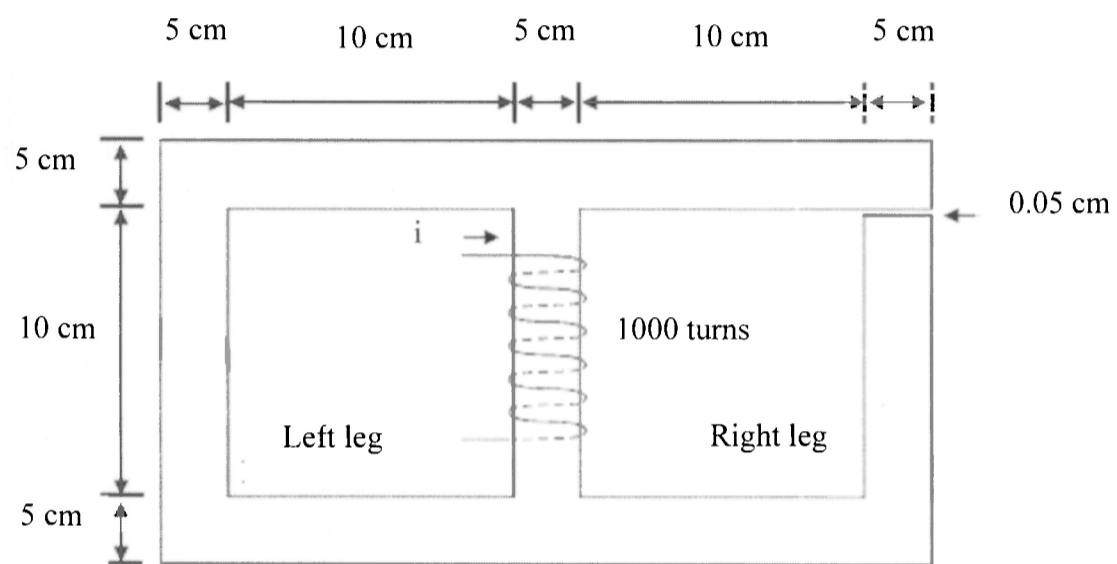

Figure Q1 (b)
- (b) A core with three legs is shown in Figure Q1 (b). The core is used as a device to unlock safety box when it is energized. Its depth is 4 cm and there are 1000 turns on the center leg. The remaining dimensions are as shown in the figure. The air gap at the right side of the core is 0.05 cm and the air gap flux is given by 0.00025 Wb. The core is composed of steel having magnetization relationship given as equation below where H is the magnetic intensity in A turns/m while B is the flux density in Tesla.